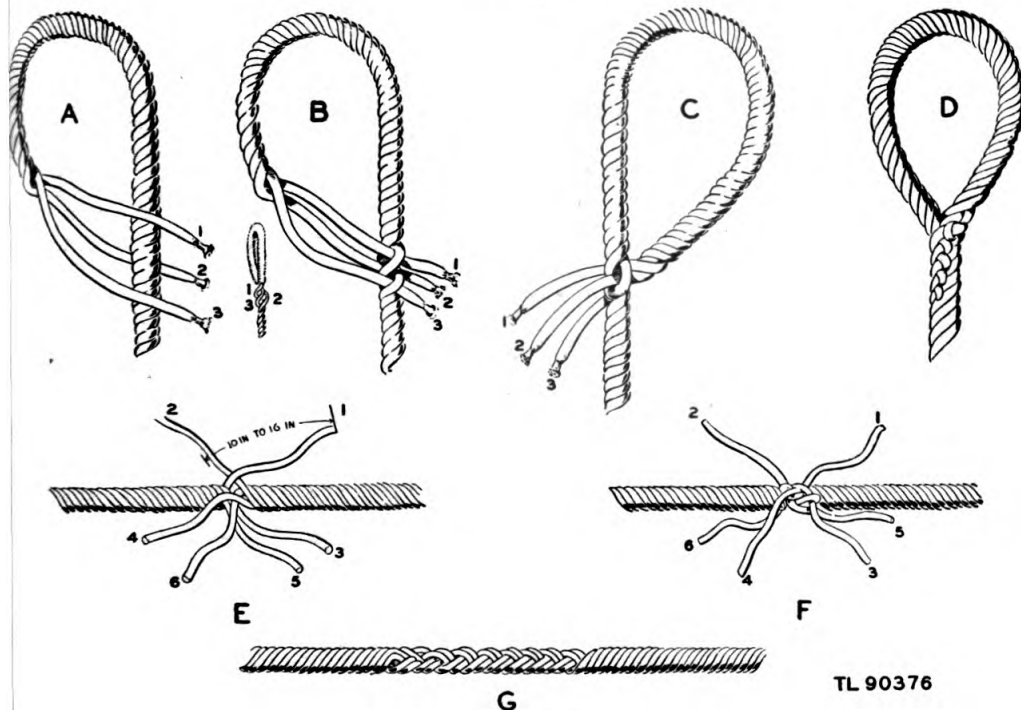

Figure 3.
c. Eye splice.—The eye splice * * * in figure 3-A-D.
(1) Untwist the strands * * * the eye required. Be certain that the middle strand 2 is placed under the rope (fig. 3-A).
(2) (Superseded.) Tuck strand 1 under one of the main strands of the rope at the point where weaving is to start (fig. 3-B).
(3) (Superseded.) Place strand 2 behind the rope (fig. 3-A).
(4) (Superseded.) Tuck strand 3 under the next main strand, directly below strand 1 (fig. 3-B).
(5) (Added.) Turn the rope over, and tuck strand 2 under the third main strand of the rope. This brings strand 2 through the main rope between strands 1 and 3 (fig. 3-B).
(e) Roll the splice between two flat surfaces under pressure as between foot and floor, and trim off surplus ends flush with the outside strands. The completed splice is shown in figure 3-D.
d. *Short straight splice.*—Short straight splice * * * of the rope. See figure 3-E-G.
(1) Untwist the strands * * * 10 to 16 inches. Butt the ends of the rope tightly together as in figure 3-E laying the strands * * * locking the strand.
(b) The operation just explained is repeated with the even-numbered strands, producing an arrangement similar to that shown in figure 3-F. Continue the interweaving on alternate sides until its total length extends a distance of 4 inches for ¼-inch rope. Add another tuck for each next larger standard size rope.
(3) (Superseded.) Roll the splice between two flat surfaces under pressure (between the foot and floor), and trim off the surplus ends flush with the outside strands. The completed splice is shown in figure 3-G.
(4) Rescinded.
(5) Rescinded.